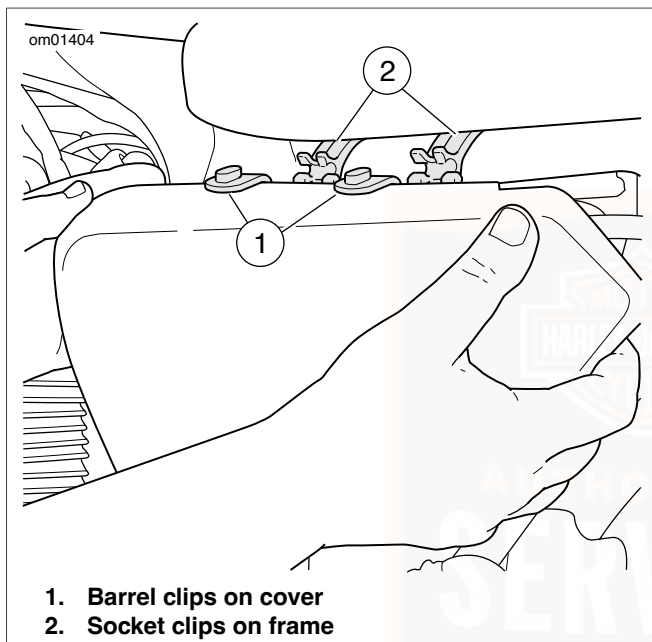

Figure 67. Left Side Cover
1. See Figure 67. Grasp left side cover at upper corners and gently pull away from frame. Disengage the front clip first for easier opening.